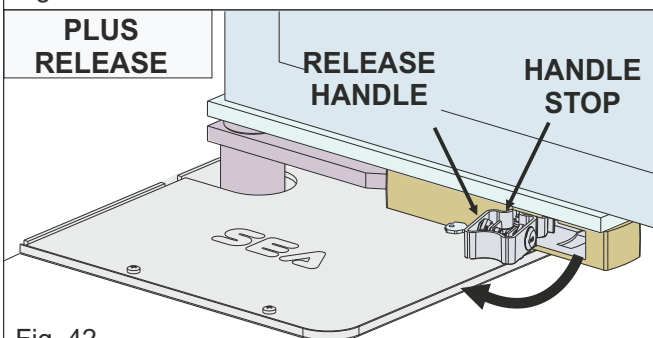

Fig. 42
- pull the key outwards up to its stop in order to extract the handle of the release system (Fig. 42)